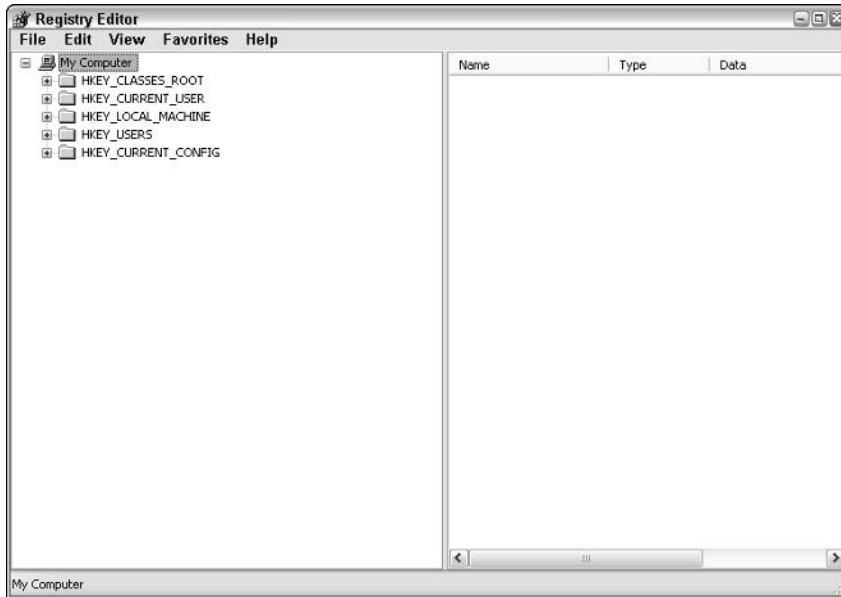

Figure 16-1: Use this window to edit the registry of each computer that is running Project.
2. In the Run box that appears, type **regedit**. The Registry Editor window opens (see Figure 16-1).